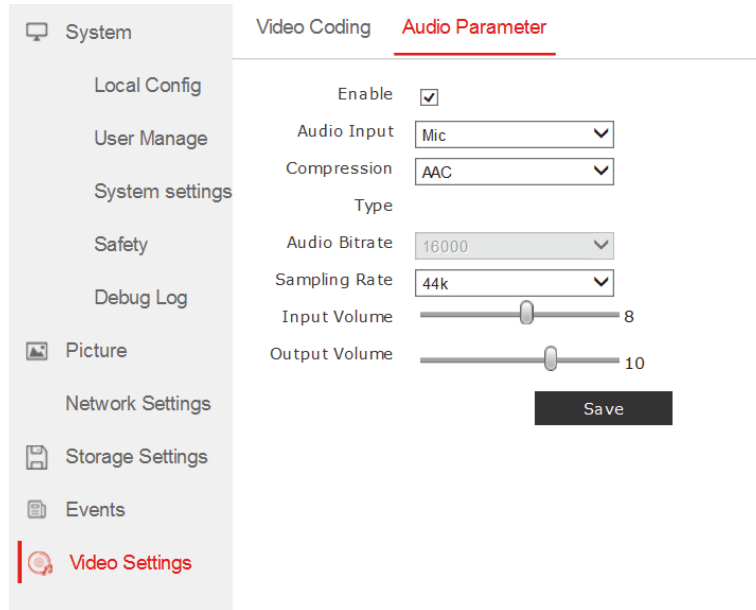

Fig.17
- **Video Settings > Audio Parameter tab** – (Fig.17)